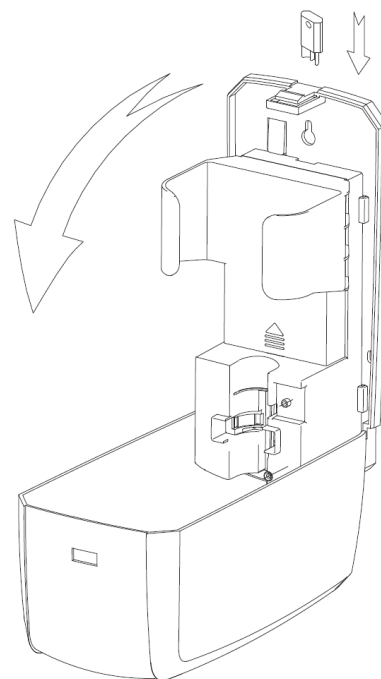

Fig. 2
3. Use key supplied to unlock and open the soap dispenser outer cover, see Fig.2.